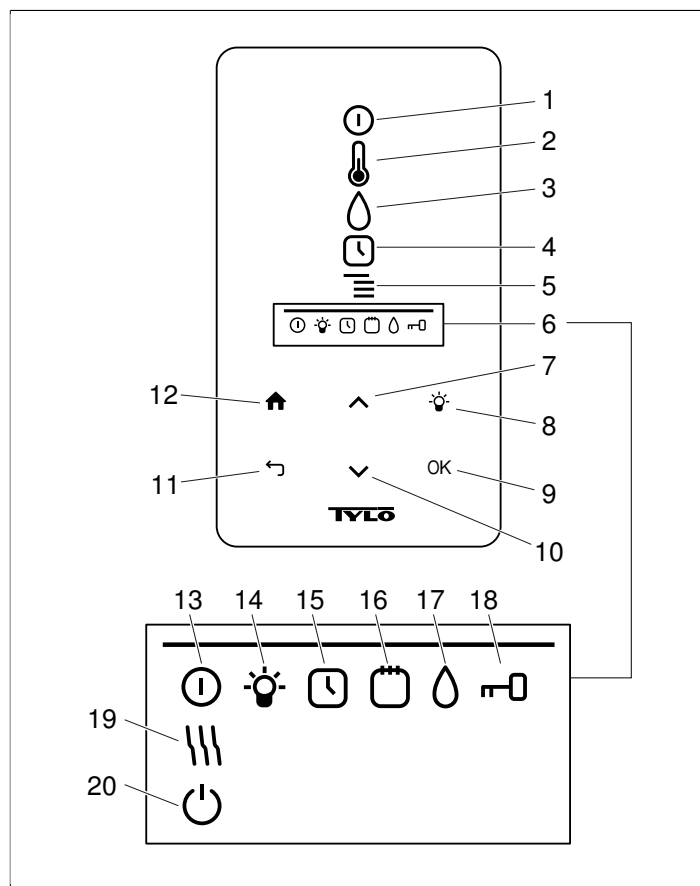
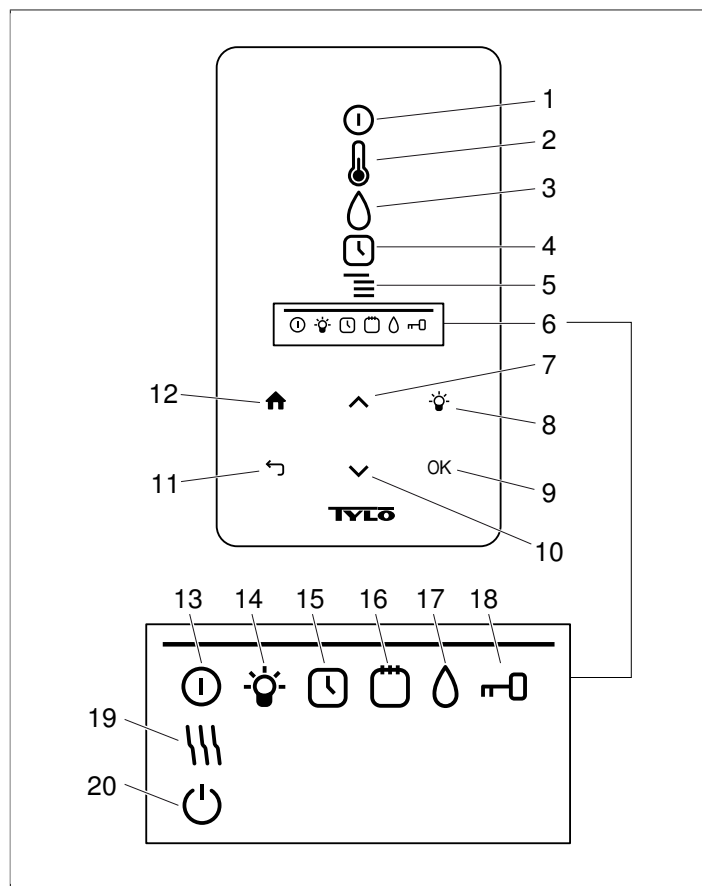

Figure 3: Main menu
Figure 5: Main menu
Use **UP** (see **Figure 3** **Figure 5**, Page 2 pos 6) and **DOWN** (pos 9) to scroll through the menus.
Use **UP** (see *Figure 3* *Figure 5*, Page 2 pos 6) and **DOWN**(pos 9) to scroll through the menus.
3. Press **OK**. **ON/OFF STATUS** will light up in the **STATUS BAR** (see **Figure 3**/**Figure 5**, Page 2) to show that the sauna heater is on.
Water level in the reservoir is indicated by **HUMIDITY STATUS** (see **Figure 8**, Page 5) in the **STATUS BAR** (see **Figure 3**/**Figure 5**, Page 2, pos 6). An illuminated, full drop symbol shows the reservoir is full. An illuminated half-full symbol shows the reservoir is half full and a flashing empty symbol shows the reservoir is empty. When starting, an empty reservoir will also be indicated by a pulsating audio signal.